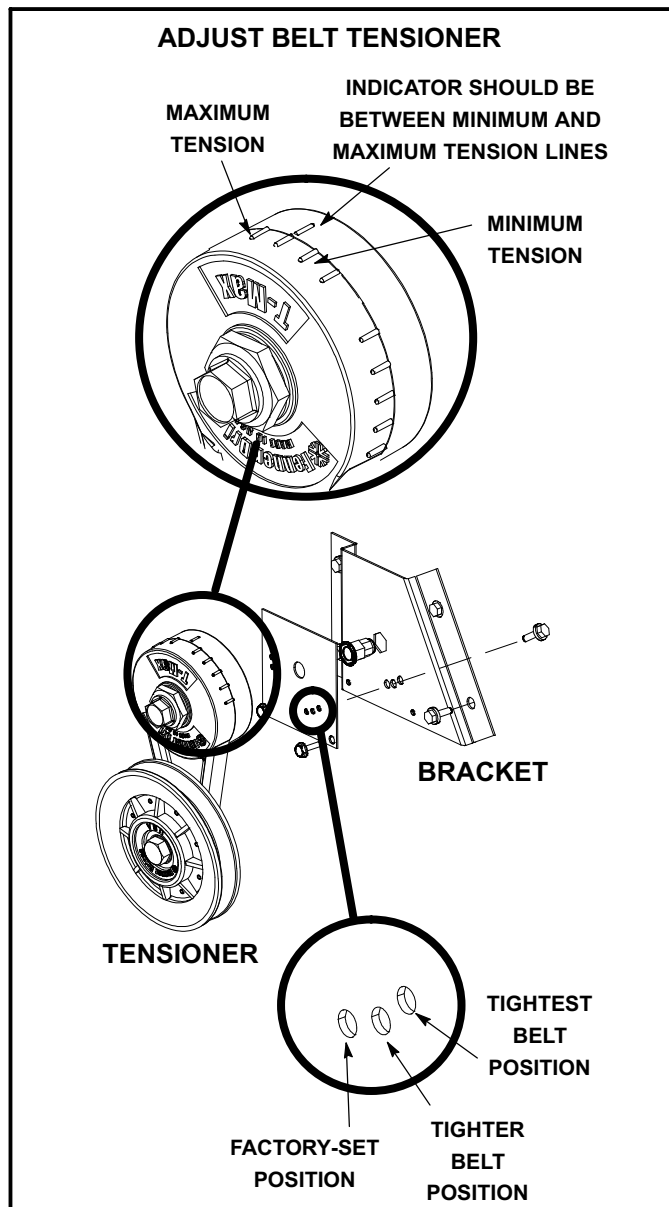

FIGURE 9
- 2- Remove bracket from blower housing. See figure 9.